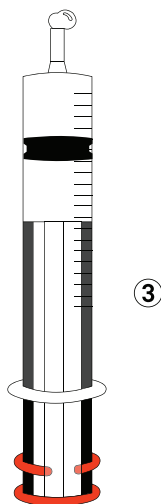

Figure 24 Remove air
19. Remove the syringe then turn it upside down and remove residual air (Figure 24).